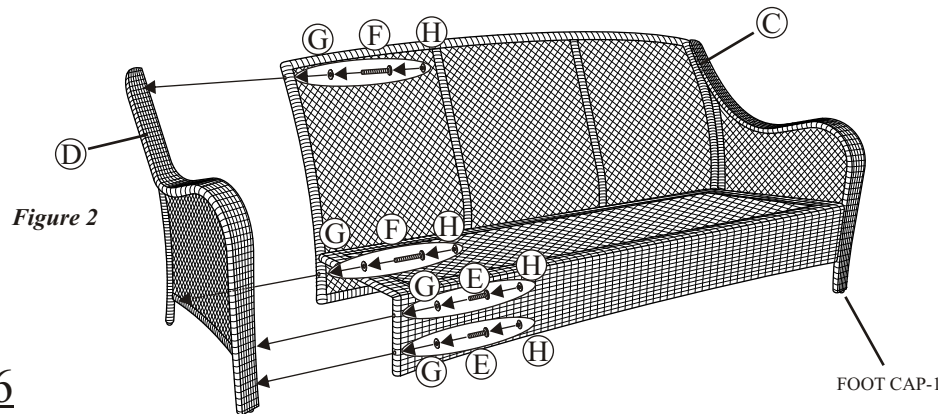

Figure 2
- Step 3:** Attach love seat arm by inserting two 5/16"x25 mm bolts with washers through the holes in front seat portion of the love seat frame and into the holes in the love seat arm shown in *Figure 2*. Attach back of love seat arm by inserting two 5/16"x40 mm bolts with washers through holes in the back portion of love seat frame and into the holes in the rear portion of the love seat arm as shown in *Figure 2*. **Hand tighten only.** Repeat for the opposite side.